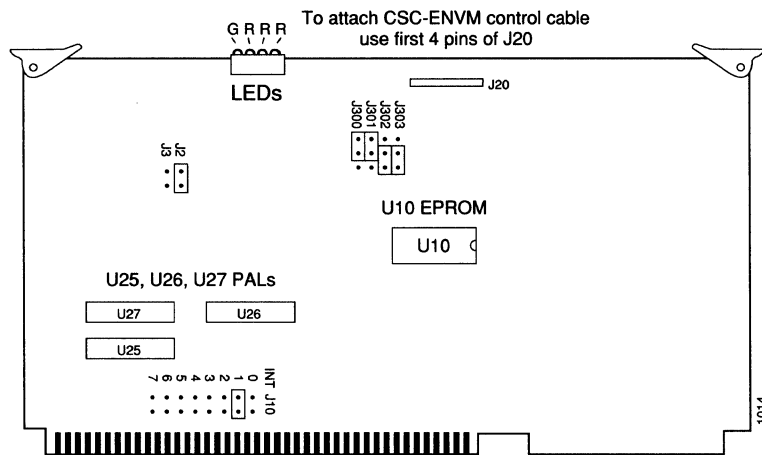

Figure 5-17 CSC-ENVM Environmental Monitor Card — Component Side View
Figure 5-17 is a line drawing of the environmental monitor card viewed from the component side.
- Step 3:** Check for proper jumper settings on the new CSC-ENVM card. The jumpers are set at the factory for correct operation, as shown in Figure 5-17.
- Step 5:** Attach the CSC-ENVM control cable to connector J20 (see Figure 5-17).
- Step 9:** Check the LEDs located near the control connector (see Figure 5-17). The green LED on the left is a Power-Available light. It is lit when the system is running. The red LED next to it indicates the Interrupt status of the system processor. The middle red LED indicates new data is available when it is lit. The far right red LED indicates that the Reset line has been activated.
Use the following instructions to remove and replace the EPROM on your CSC-ENVM card. Refer to Figure 5-17 for placement of the EPROM on the CSC-ENVM environmental monitor card.
Each EPROM has a notch cut on one end to indicate proper orientation. It should be placed so that its notch faces the same direction as the notch in the EPROM socket, as shown in Figure 5-17. Do *not* rely only on the orientation of the EPROM labels. See step 4 below for specific installation instructions.